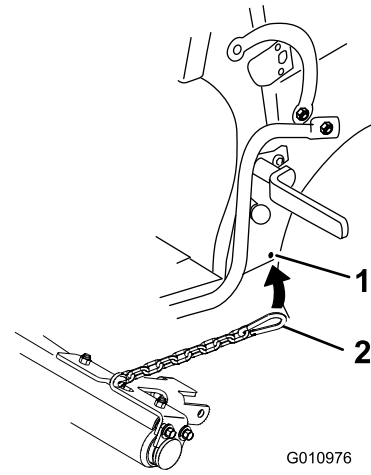

Figure 8
4. Snap the chain end into the hole in the lower, front side plate of the platform (Figure 8).